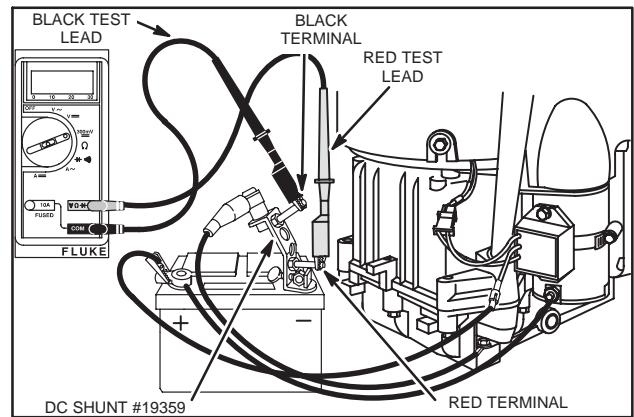

Fig. 23 – Testing Regulator-Rectifier 16 Amp System With DC Shunt
The DC Shunt **must** be installed on the **negative** (-) terminal of the battery, Fig. 23. All connections must be clean and tight for correct amperage readings.
2. Insert RED test lead into $V \Omega \rightarrow +$ receptacle in meter and insert into RED terminal on shunt, Fig. 23.